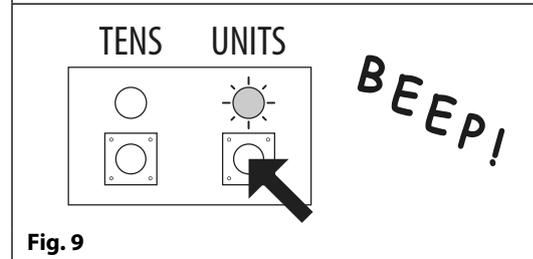

Fig. 9
2. Use the units button to set the unit ID of the reader, e.g. to set the unit ID to 5 press the units button 5 times (listen for the confirmation beep each time the button is pressed and observe the yellow units LED as this should flash each time the button is pressed), see **Fig.9**;